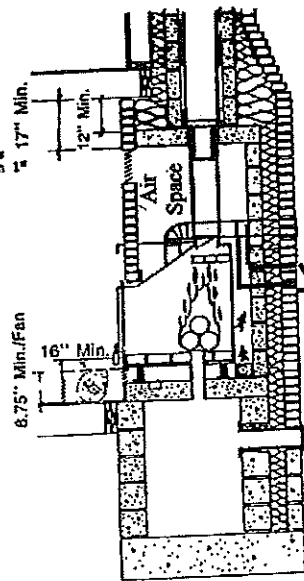

FIGURE 1A
5. If foundation hole is to be used as an ash pit, install an airtight clean-out door above ground level. (See Fig. 1A.)
#### Installing Blowers: (Fig. 1A)